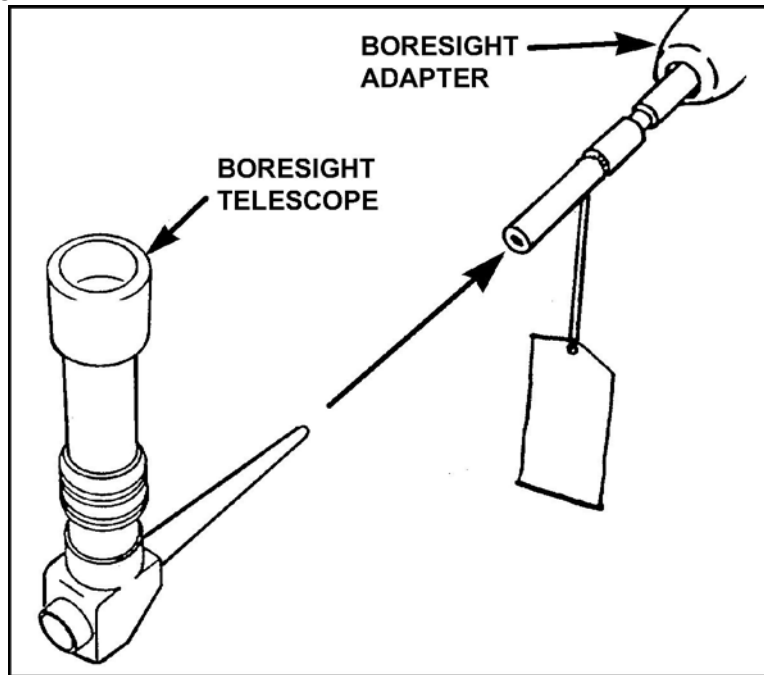

Figure 2. Boresight kit.
3. Helper: Install the boresight telescope (Figure 2).